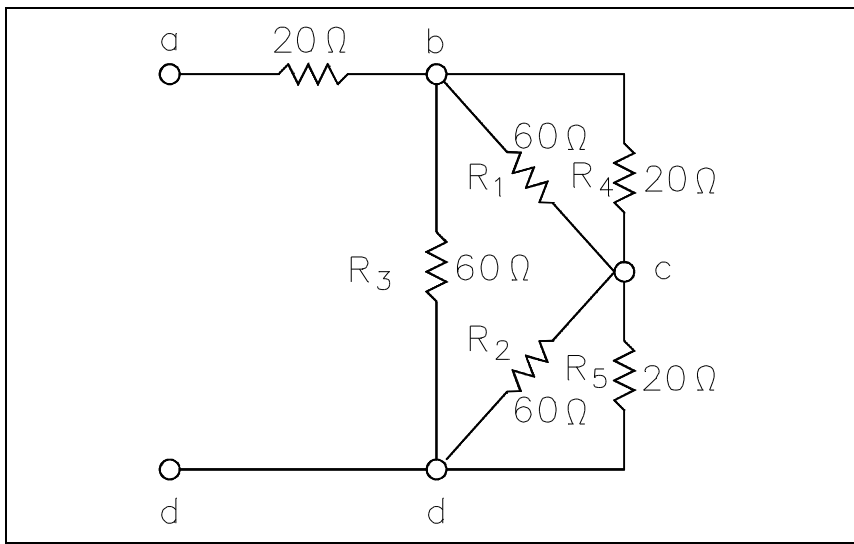

Figure 51 Y - Δ Redrawn Circuit
Step 2: Now, we can redraw the Y circuit as a  $\Delta$  circuit and reconnect it to the original circuit (Figure 51):
Step 3: Reduce and simplify the circuit. Note that the  $20\Omega$  and  $60\Omega$  branches are in parallel in Figure 51. Refer to Figures 51 and 52 for redrawing the circuit in each step below.